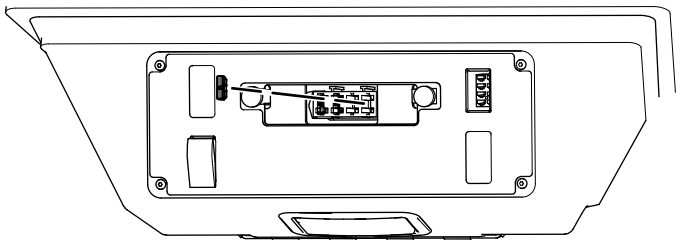

Figure 23
1. Install the fuse into the opening in the fuse block as shown in Figure 23.